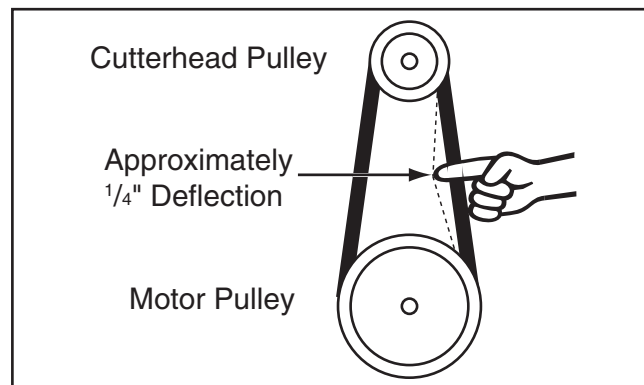

Figure 50. Correct belt deflection when properly tensioned.
4. Press belt with moderate pressure in center to check belt tension, as shown in **Figure 50**.
Note: Belt is correctly tensioned when there is approximately 1/4" deflection when pushed in middle, as shown in **Figure 50**.